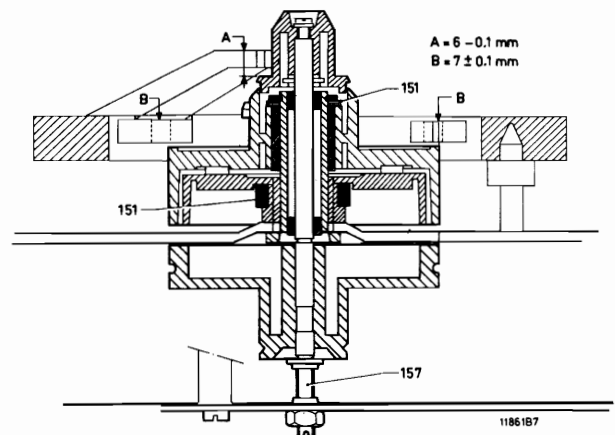

Fig. III-22
2.4.7. Reel disc height (Fig. III-22)